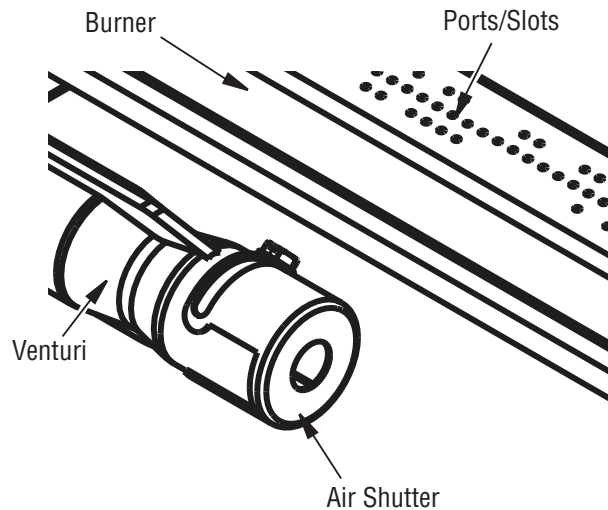

Figure 31 - Injector Holder On Outlet Burner Tube
2. Inspect burner, air shutter and orifice for dust and dirt (see Figures 31 and 32).